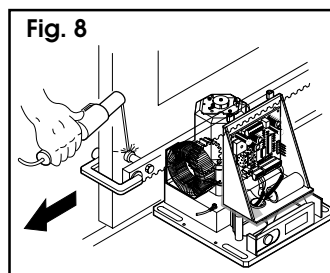

Fig. 8
4) Place the first section of the rack on the pinion, aligning the latter with the first spacer (fig. 8).
5) Fix the rack section to the leaf by means of a clamp (fig. 8).